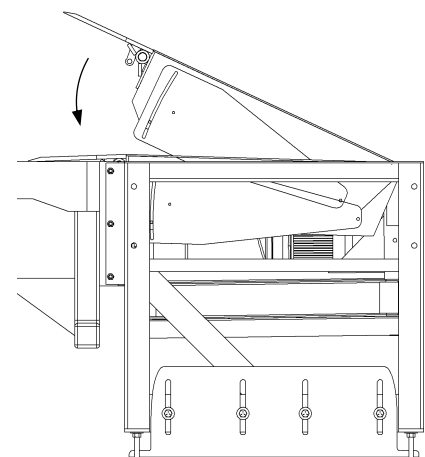

Figure 10: Lowering Leveler onto Bed
3. When the lip is fully extended, release the UP button to lower the leveler onto the truck bed (Figure 10). Verify the lip is in full contact with the truck bed before loading/unloading.